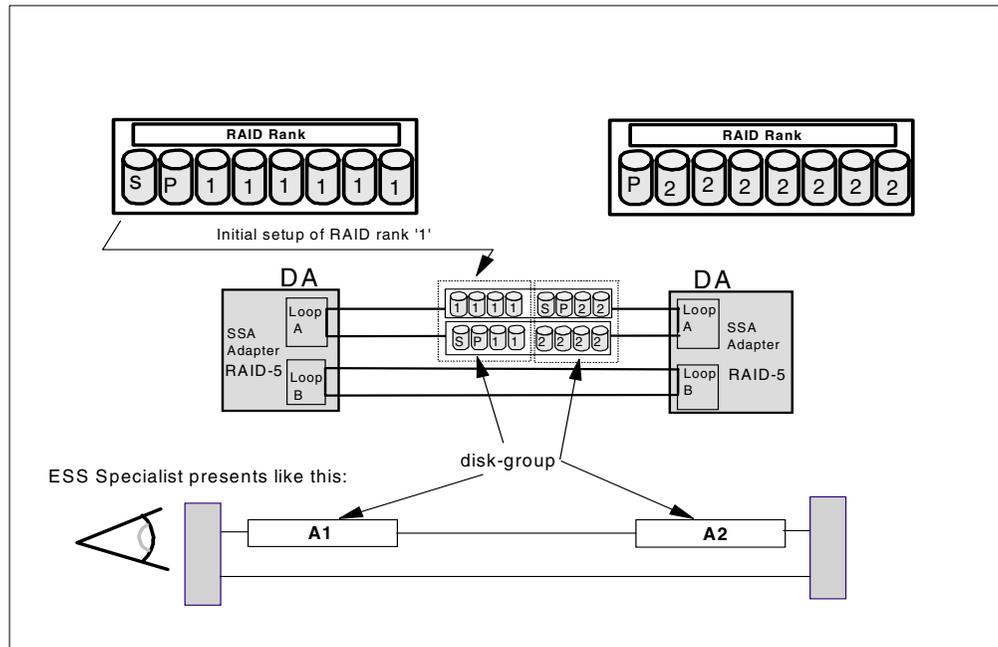

Figure 72. Disk groups and RAID ranks — initial setup
Before describing the configuration of CKD and FB ranks, let us review some definitions we already presented and let us see some additional basic concepts that are involved. Please refer to Figure 72 for the following explanations
- There are two SSA loops (A and B) per device adapter (DA) pair.
- Initially, for each loop, four DDMs from two different 8-packs make what is called a *disk group* by the ESS Specialist (see Figure 72). The ESS Specialist refers to disk groups and displays them graphically as whole rectangles. Later when the spare disks are used, the DDM set that conforms the disk group will differ from the original set. The ESS Specialist will still show the disk group with the same whole rectangle representation it used to show the initial disk group setup. So a disk group is basically eight DDMs of the same loop, and these DDMs at some point, will no more be part of the same initial 8-pack assembly.